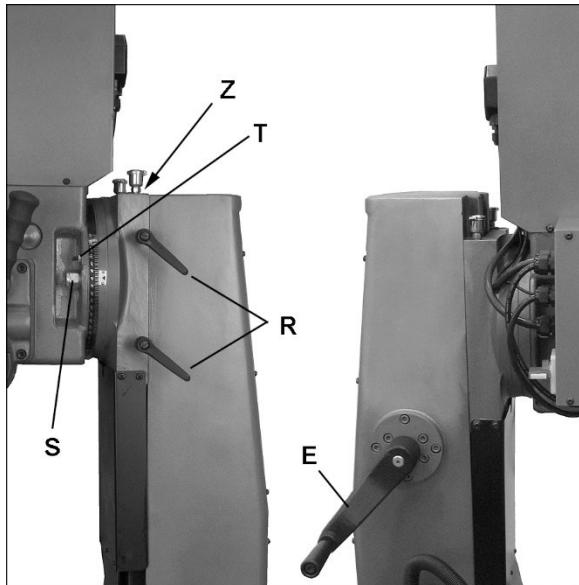

Figure 7-2: head adjustments
1. Slide crank (E) onto shaft of column (see Figure 7-2) and tighten set screw. Make sure set screw seats on flat part of shaft.
2. Thread small handle (D) into crank and tighten nut.
3. Slide handwheels (A) onto shafts at front and both ends of table. If needed, tap with rubber mallet to seat handwheels onto shafts. Tighten set screws.
4. Thread a small handle (D) onto each handwheel and tighten nut.
- Loosen lock handles (R, Figure 7-2) and raise head by turning crank (E) clockwise to remove shipping block from table.
See Figure 7-2.
A Z-axis gib adjustment screw is located atop the square column near oil cup (see Z, Figure 7-2). Follow same principle as described under sect. 7.4.1. Slight drag should be felt when turning crank handle.